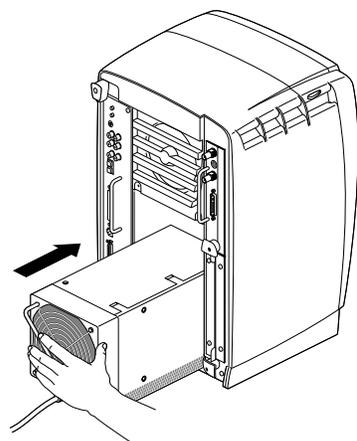

Figure 3-6 Sliding In the New Power Supply
2. Slide the new power supply into your workstation, as shown in Figure 3-6.